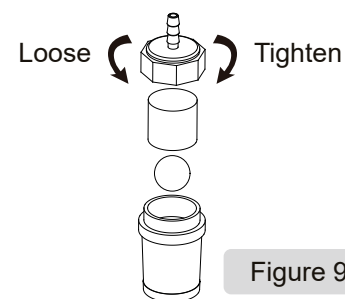

Figure 9
- 2) To ensure the irrigator works reliably and robustly, clean the filter after a period of operation as shown in **Figure 9**, wash every part to clean the debris.